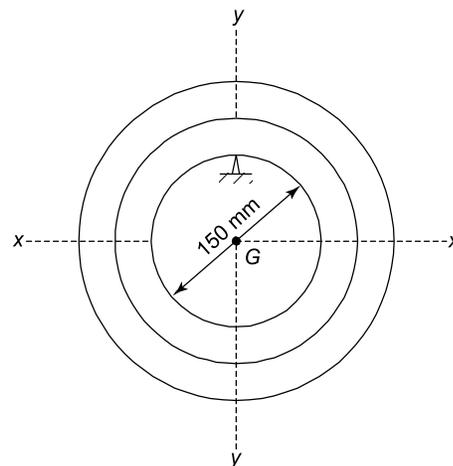

Figure 18.8
**Problem 4.** It is required to determine the mass moment of inertia about  $G$  of a metal ring, which has a complex cross-sectional area. To achieve this, the metal ring is oscillated about a knife edge, as shown in Figure 18.8, where the frequency of oscillation was found to be 1.26 Hz. If the mass of the ring is 10.5 kg, determine the mass moment of inertia about the centre of gravity,  $I_G$ . Take  $g = 9.81 \text{ m/s}^2$ .
By inspection of Figure 18.8,  $h = 75 \text{ mm} = 0.075 \text{ m}$ .
- What will be the value of the mass moment of inertia through the centre of gravity,  $I_G$ , for the compound pendulum of worked problem 4 on page 209, if the inner diameter of the disc of Figure 18.8 were 100 mm?